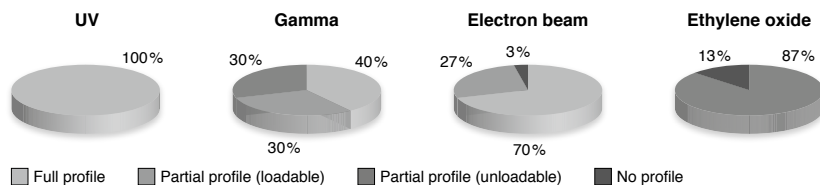

Figure 1 According to Shaw et al., 2008, Comparison of the effects of sterilization techniques on subsequent DNA profiling. *Int J Legal Med* 122: 29–33.
NucleoSpin® Tissue is certified as forensic quality product. Consumables used in forensics need to be treated carefully to prevent DNA contamination. MACHEREY-NAGEL therefore has a stringently controlled production process to avoid DNA contamination of consumables. Further, MACHEREY-NAGEL uses ethylene oxide (EO) treatment to remove amplifiable DNA, which might still be introduced during the manufacturing process. MACHEREY-NAGEL products carrying the forensic quality seal, contain plastic materials that are EO treated. This means, DNA of any kind, which might still be introduced into plastic consumables during the production process, is inactivated by means of the treatment with ethylene oxide, in order to prevent the generation of accidental human profile by PCR amplification. Ethylene oxide treatment has been shown to be the method of choice to prevent DNA profiles due to DNA contamination (Shaw et al. 2008; Figure 1).